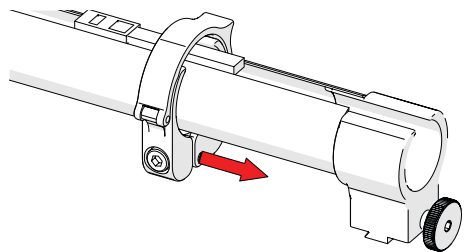

Fig. 58 - Slide clamp onto mount
3. Slide the clamp over the tube and zipper tube dovetail mount pinching the tube in between (Fig. 58).